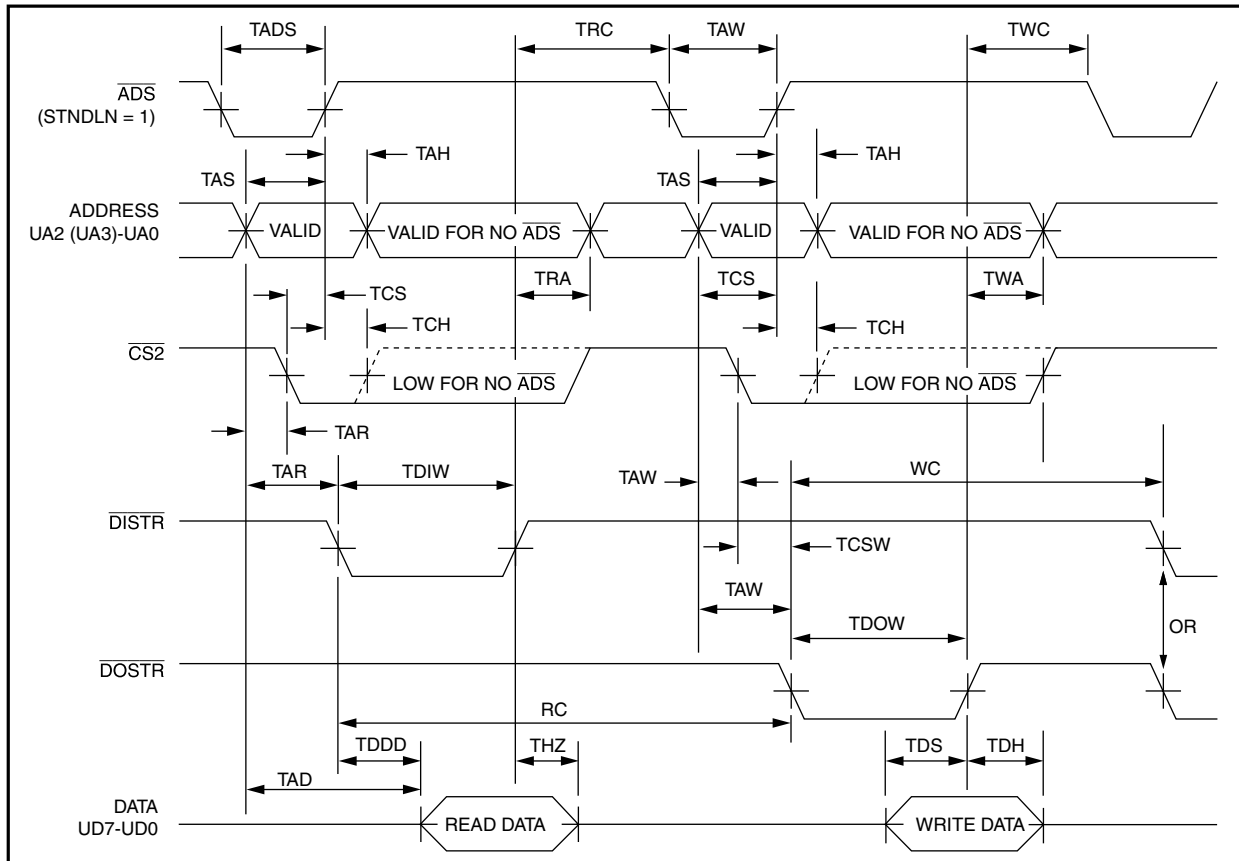

FIGURE 5: UART Bus Timing
**PARALLEL BUS INTERFACE** (See Figure 5) The following times are for  $C_I = 100$  pF.